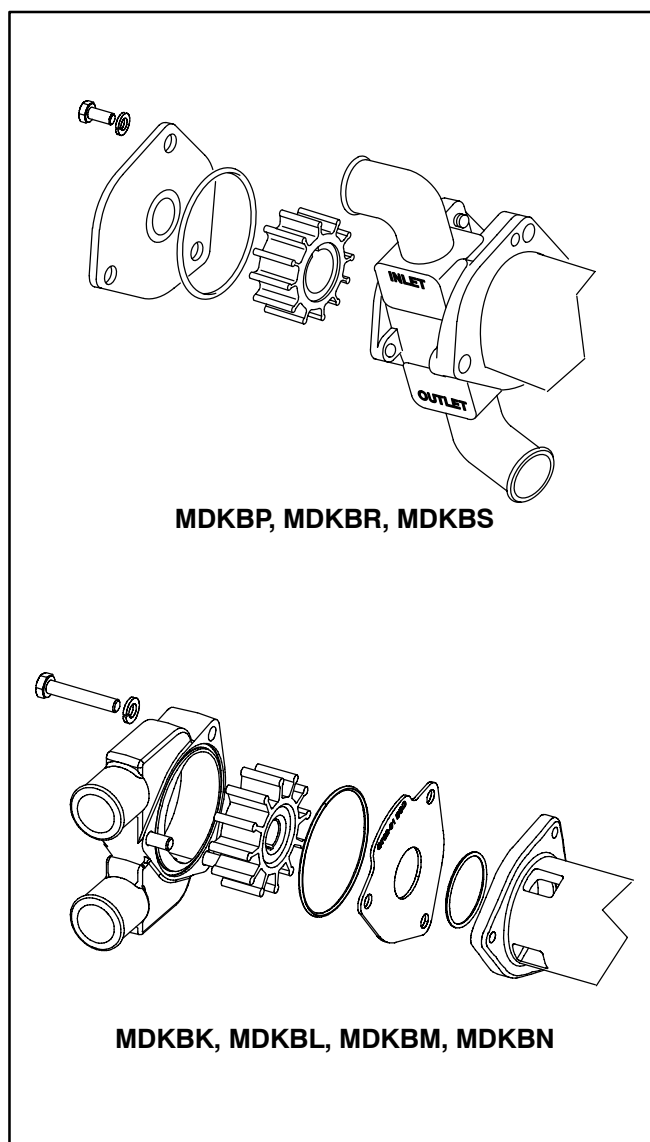

FIGURE 4-5. TYPICAL RAW WATER PUMPS
3. Loosen the three screws on the end of the pump body to remove the pump body or impeller cover, depending on construction (Figure 4-5).